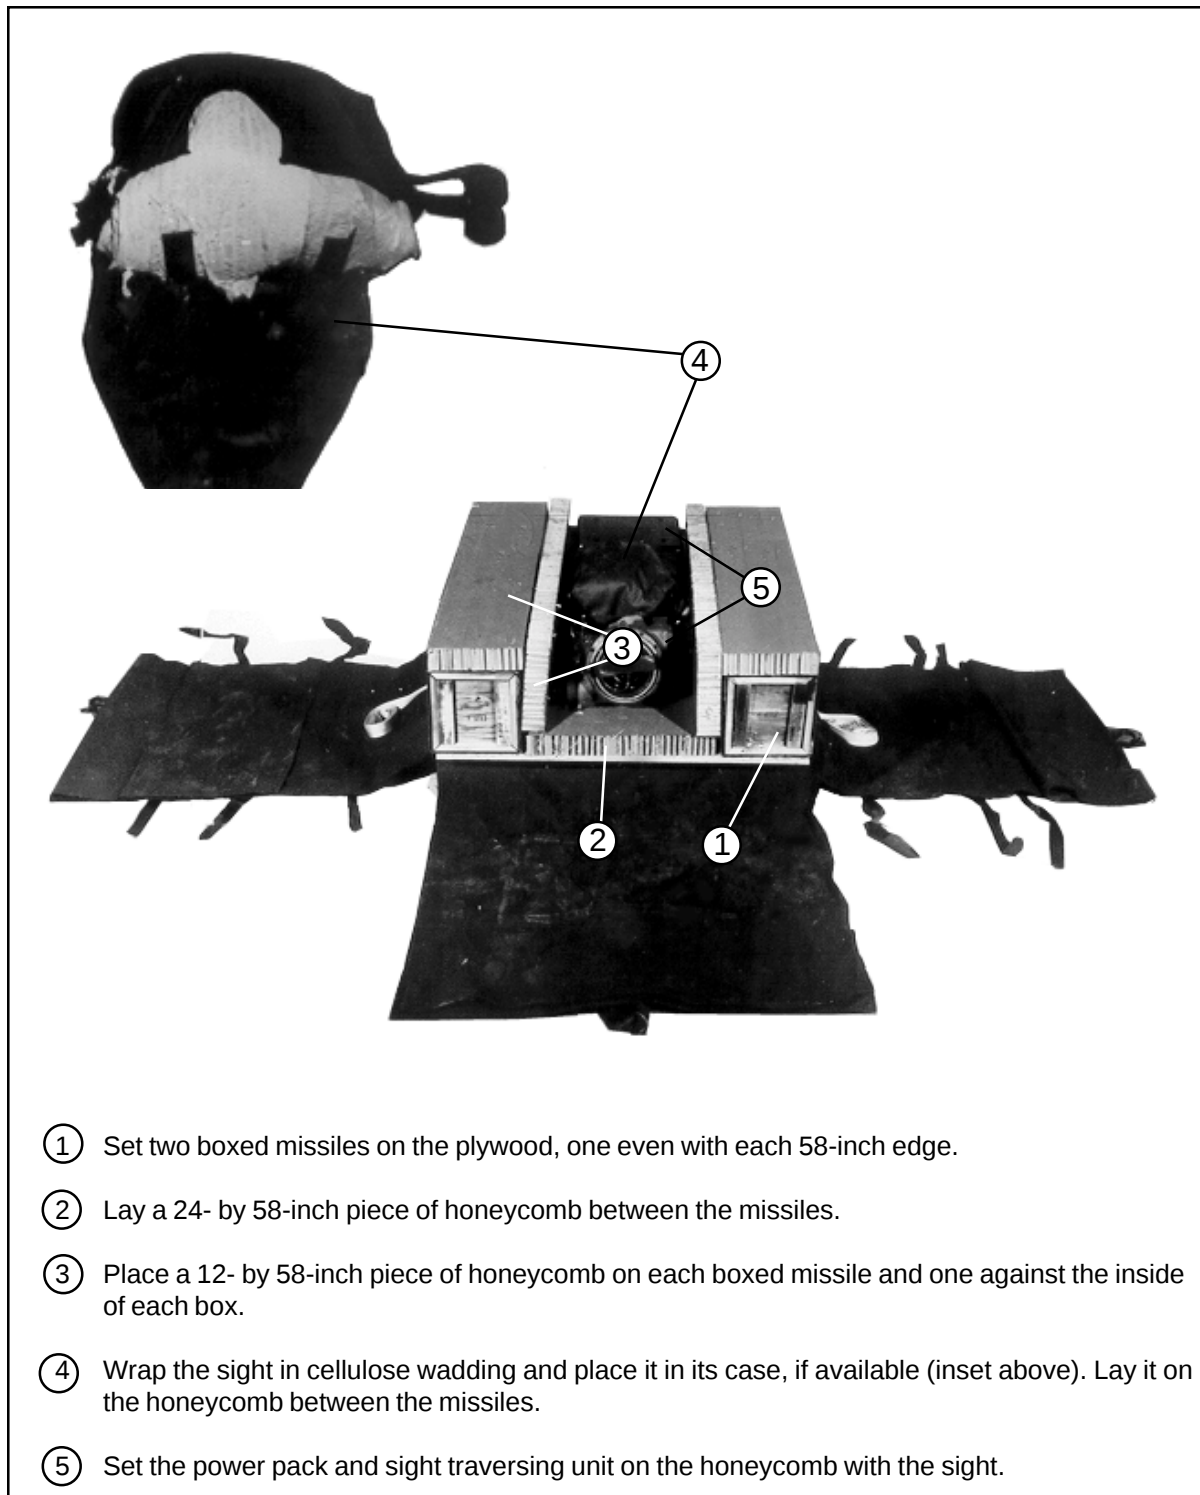

Figure 2-4. Missiles, Sight Traversing Unit, Sight, and Power Pack Stowed
- c. Pack the TOW weapon system and missiles as shown in Figures 2-4 through 2-7.